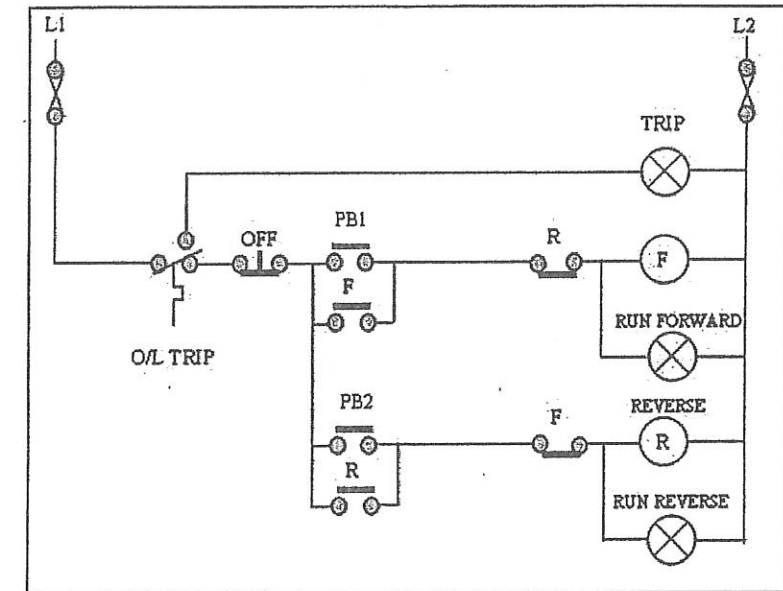

Figure 4/ Rajah 4
- (b) **Figure 4** shows the electrical control circuit of motor starter. These motors are controlled manually by pushbutton PB1 and pushbutton PB2. The function pushbutton OFF is to stop the operation. Describe the operation of this circuit.